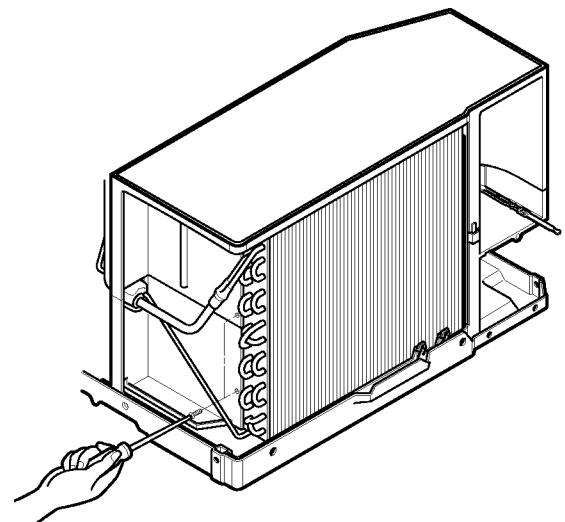

Figure 17
7. Re-install the component by referring to notes. (See figure 17)